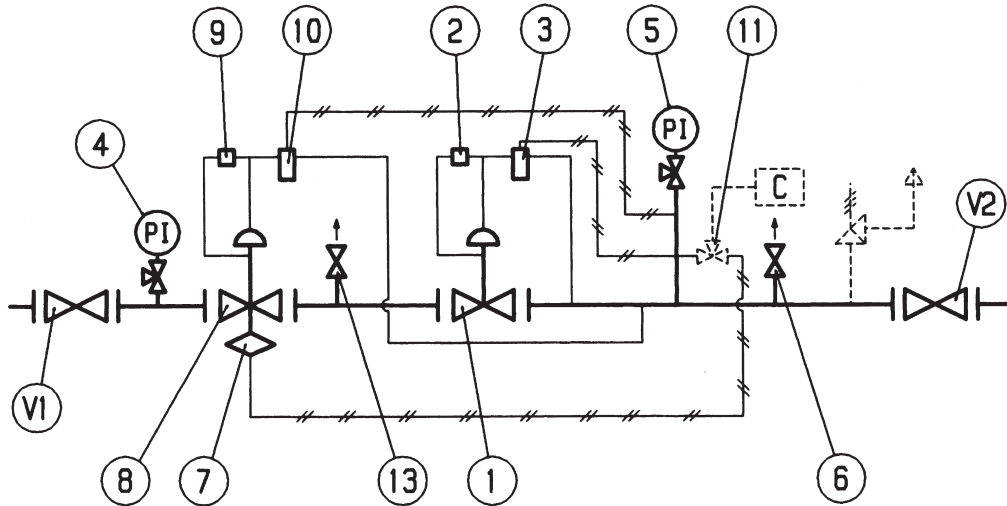

Fig. 22
**5.7 COMMISSIONING THE REGULATOR PLUS APERVAL IN LINE MONITOR WITH INCORPORATED VB/93 SLAM-SHUT (FIG. 22)**